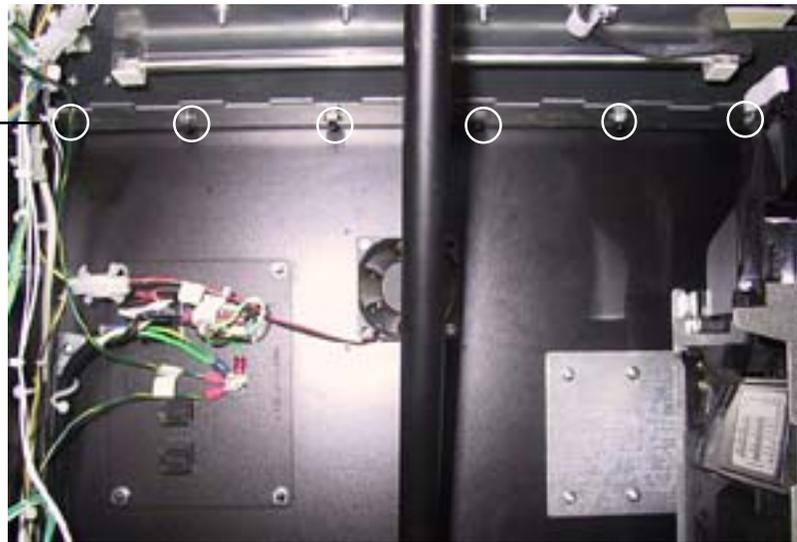

FIGURE 9 - BRACKET - UNDER MONITOR BEZEL
3. Remove the 6 hexnuts and screws securing the bracket to the back of the game (including the two screws holding the small silver bracket). See Figure 9.
5. Close the monitor bezel. Locate the yellow rubber coated brackets. On the left and right sides, remove the hexnut, spring, spacer, and screw securing the top bezel to the bracket. See Figure 9.
4. Replace the hexnut, spring, spacer and screw securing the top bezel to the side brackets on the left and right sides. See Figure 9.